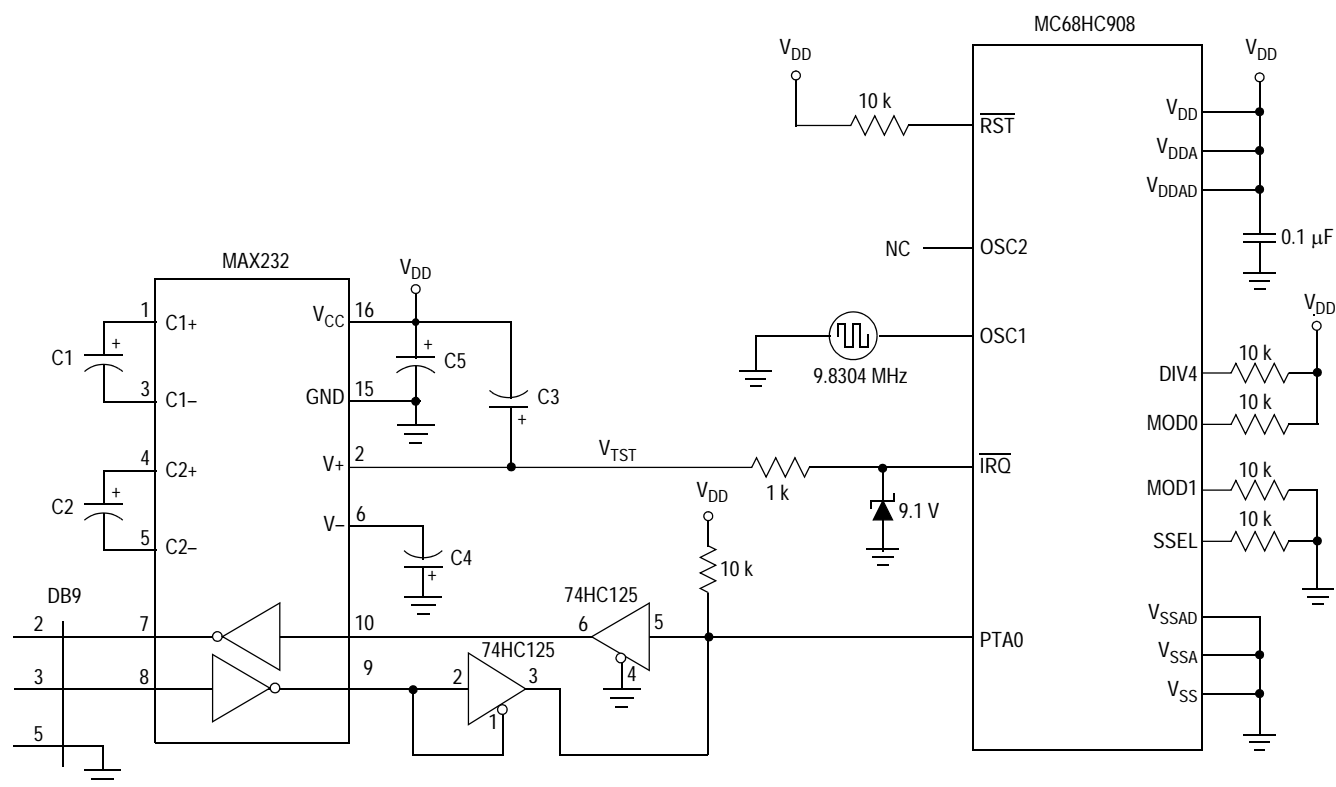
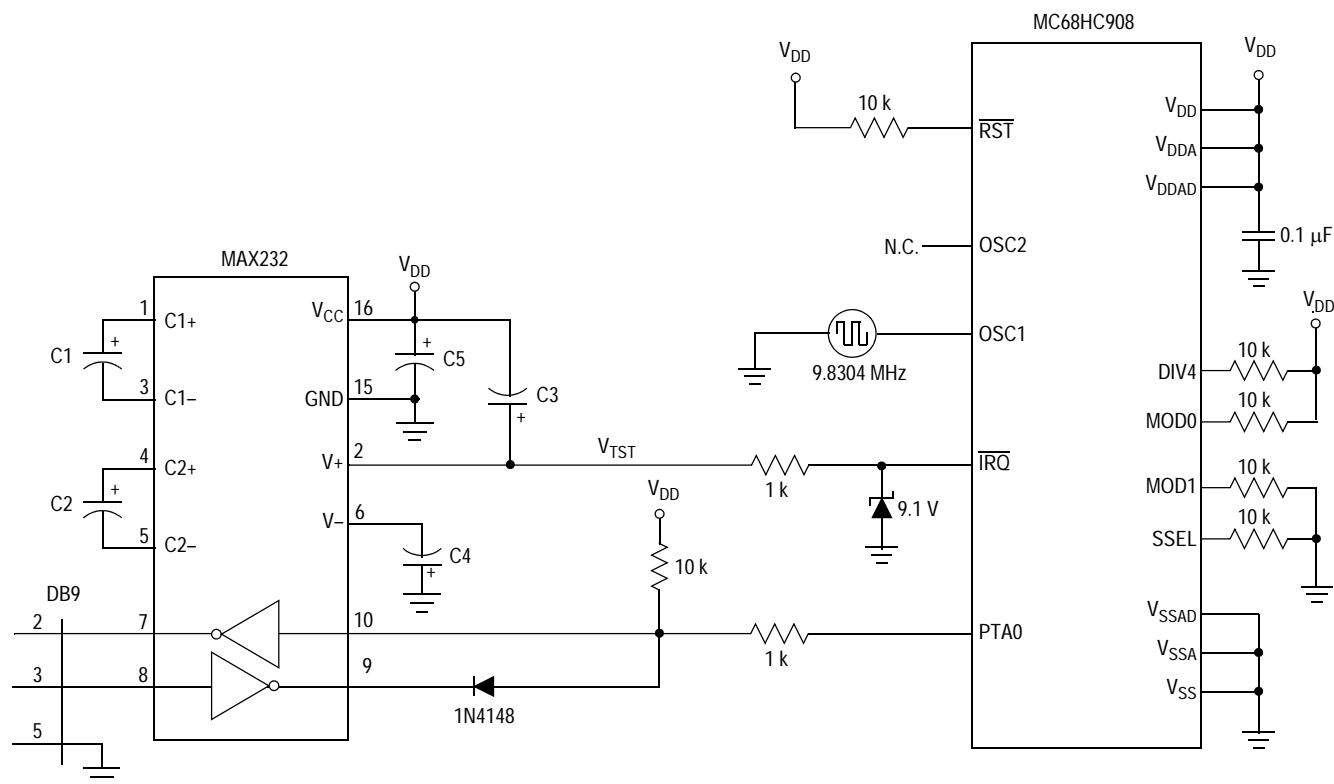
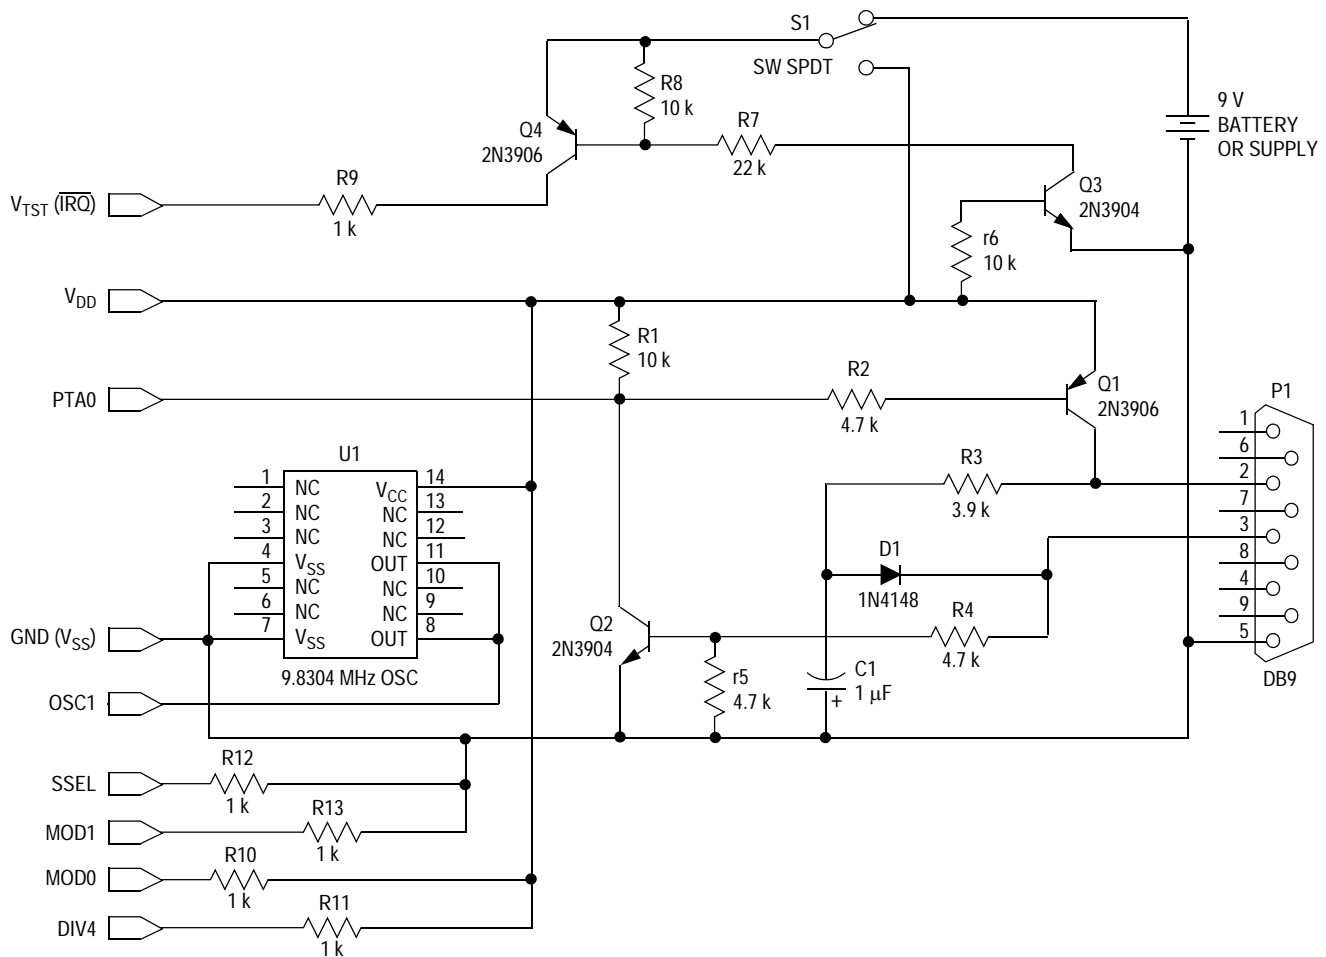
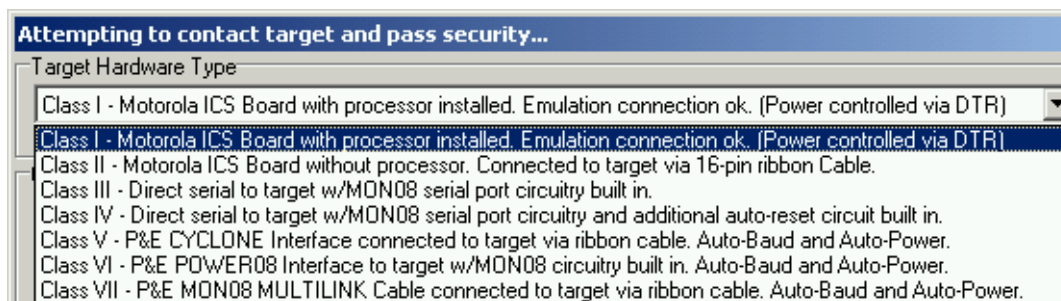

Figure 4. Normal Monitor Mode Circuit
Figure 5. Simpler Monitor Mode Circuit
Figure 7. Low-Cost MON08 Interface
Figure 10. Hardware Selection in P&E PROG08SZ
The normal monitor mode circuit in most M68HC08 data books looks something like that shown in Figure 4. The circuit to the left of the MCU in Figure 4 shows the MAX232 serial level shifter and the 74HC125 buffers that provide the bidirectional data switching for the serial communications on port PTA0. This portion can be used a stand-alone pod for monitor mode communication with many M68HC08 variants. Notice that we use the V₊ supply from the MAX232 to provide the V_{TST} voltage for the \overline{IRQ} pin. The signal generator in the middle of the figure is usually a canned oscillator which can also be placed in the stand-alone pod.
A simpler implementation of the monitor mode circuit of Figure 4 is shown in Figure 5. The two 74HC125 buffers are replaced by a resistor and diode. When PTA0 is outputting a 1, the input at the MAX232 pin 10 is held high. When PTA0 is outputting a 0, the input at pin 10 is driven low. The RS232 level at pin 8 is idling low which drives pin 9 to a logic one. This high level is blocked by the diode so there is no bus conflict. As an input, PTA0 idles high whenever pin 9 is high. When the MAX232 pin 9 goes low, the diode provides the path to pull the PTA0 input low.
The MAX232 shown in **Figure 4** and **Figure 5** can be used to supply the high voltage (V_{TST}) for monitor mode entry. The V+ output of the MAX232 supplies about 9 V for the RS232 communications interface, which is adequate for monitor mode entry. A zener diode and current limiting resistor complete the V_{TST} supply. The \overline{IRQ} pin draws about 200 μA from the V_{TST} supply when monitor mode is selected.
Another way to get the V_{TST} voltage is by switching a 9 V battery or power supply to the \overline{IRQ} pin. An example of a switching circuit is shown in **Figure 7** below. The supply voltage should be limited to 9 V to meet the V_{TST} spec. The 1 k Ω series resistor (R9) is a simple current limit for the V_{TST} supply.
Figure 7 shows another implementation of a custom MON08 interface. This circuit was modified from a low-cost RS232 interface found on several Internet sites. The central part of the circuit, composed of transistors Q1 and Q2, diode D1, capacitor C1, and resistors R1 – R5, is a simple level shifter between the 0 V and 5 V levels on the PTA0 pin and the –8 V to +8 V levels from the PC's serial port. This circuit actually transmits –5 V to +5 V levels due to the negative pull down at C1 and V_{DD} pullup at Q1. Q1 and Q2 can be any general-purpose PNP and NPN transistors, respectively. Resistor R3 can be trimmed to provide the best negative voltage swing for the transmitter signal at the DB9's pin 2.
The bottom part of the circuit in **Figure 7** is an optional way to route the appropriate levels for monitor mode selection to a target system that requires the external bias.
P&E's ICS08 software packages contain the WinIDE integrated development environment, which pulls together an assembler, in-circuit simulator, memory programmer, and in-circuit debugger. The programmer and debugger work with any MON08 hardware interface, as shown in the target hardware type menu in **Figure 10**. Class III is used with the MON08 interfaces in **Figure 4**, **Figure 5**, and **Figure 7**, above. Classes V and VII are used with the Cyclone and Multilink pods, respectively.
The following examples illustrate how to program and debug an M68HC908GT16 MCU with P&E's PROG08SZ and ICD08SZ tools. The MON08 pod in this example is a custom version of the circuit shown in **Figure 4**.
6. From Target Hardware Type, select Class III (see Figure 10).
Here are the main steps in programming the FLASH with CodeWarrior in normal monitor mode and starting a debug session. This example was built with PEDebug as the project stationery and QT4 absolute assembly. This example also uses the low-cost MON08 circuit from Figure 7 as the MON08 pod.
7. Select the appropriate class in Target Hardware Type (Class III for low-cost MON08 circuit from Figure 7) and baud rate.